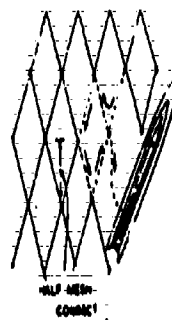

Fig. 35
4. With one exception, after making a side knot the next knot will be a half mesh knot (Fig. 34), a pick up knot followed by a half mesh knot, (Fig. 35) or a finishing knot.